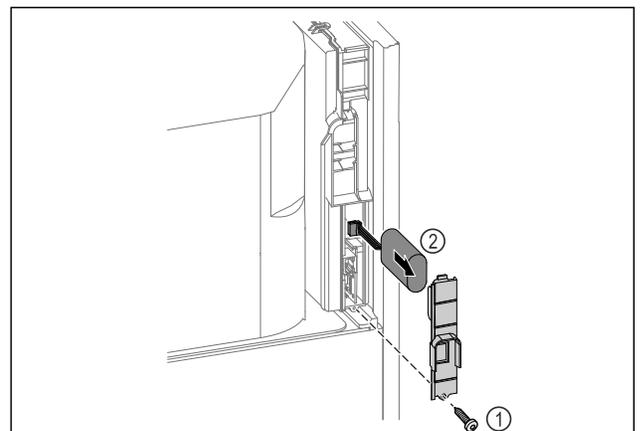

Fig. 217
- ▶ Unscrew screw and remove cover from the back of the appliance Fig. 217 (1).
- ▶ Disconnect the battery and remove it Fig. 217 (2).